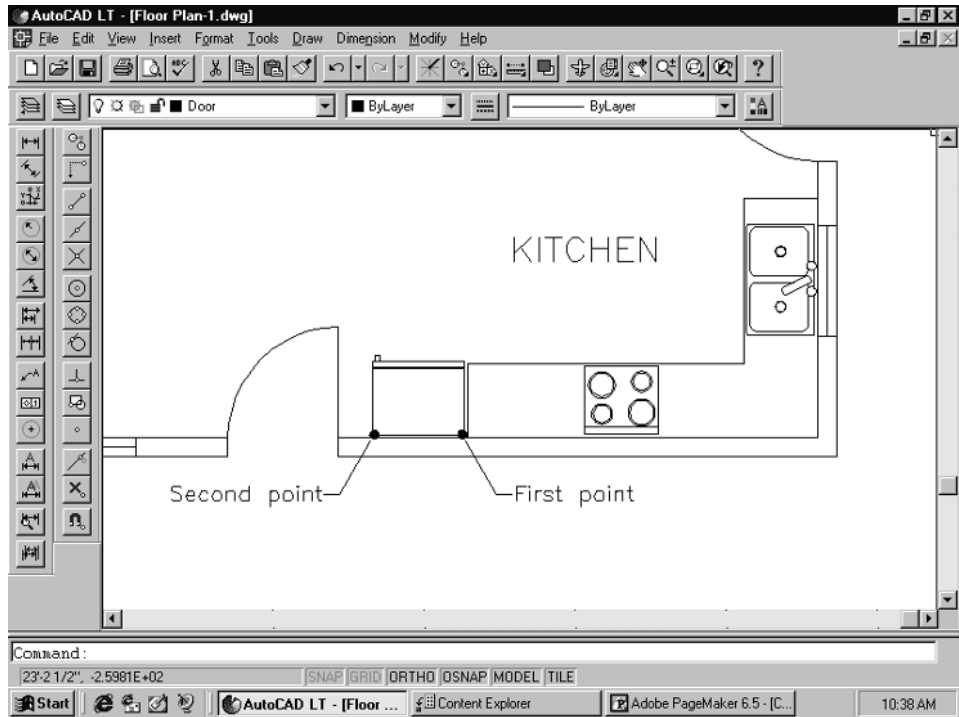

Figure 2-94
2. At the *<Scale factor>/Reference* prompt, type **R**, then **Enter**. Then, at the *Reference length <1>* prompt, pick one end of the back line of the refrigerator, then pick the other end of the back line, as shown in Figure 2-94.